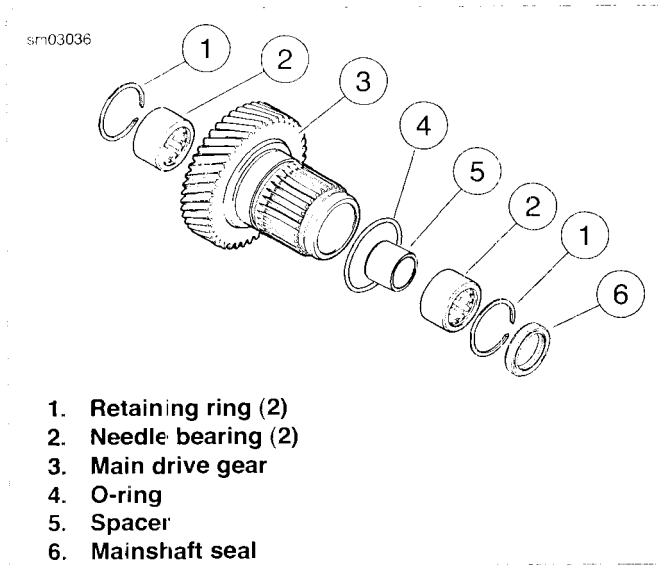

Figure 6-36. Main Drive Gear Assembly
1. See Figure 6-36. Remove mainshaft seal (6). Remove retaining rings (1), needle bearings (2) and spacer (5) from main drive gear (3). Discard retaining rings.
2. Remove and discard O-ring (4).
7. See Figure 6-36. Install **new** retaining rings (1).
8. Install **new** O-ring (4) into groove in main drive gear.